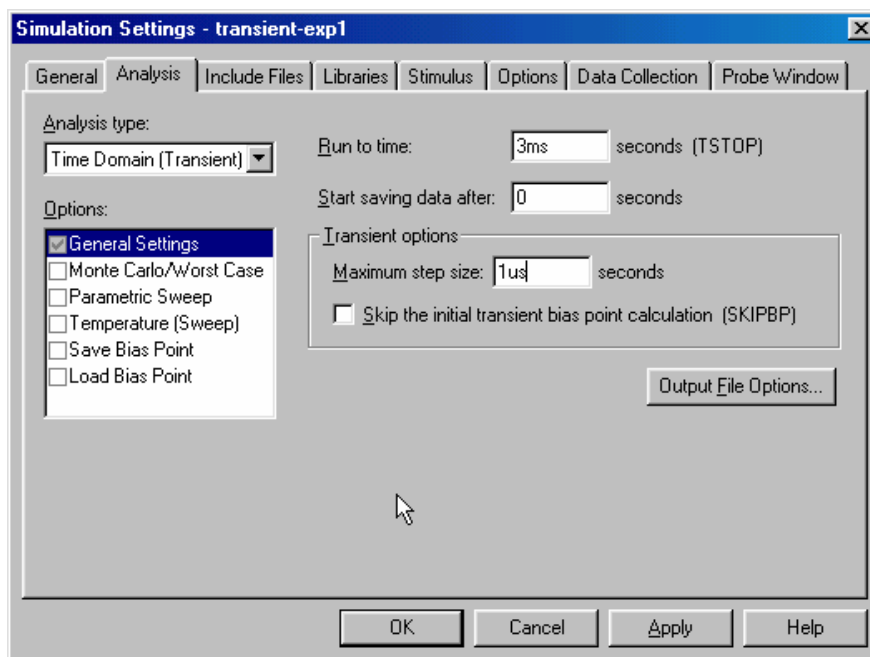

Figure C-9
- Now we can set up the simulation. We will be doing *Transient Analysis* since that will produce a plot that is similar to what we see on the scope. The analysis options are found in the pull-down menu at the upper left of the *Simulation Settings* window shown in figure C-9.